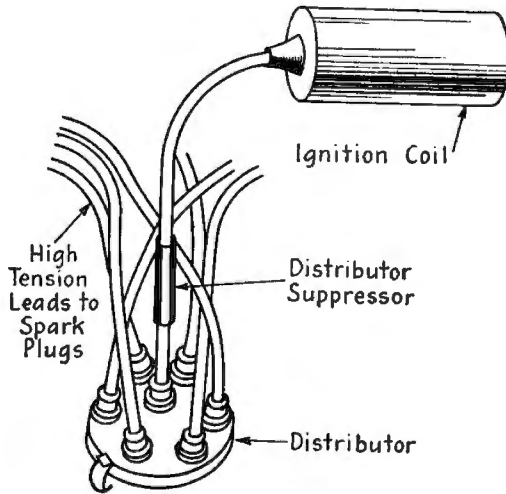

FIG. 19-5.—Distributor-suppressor installation.
Reduction of Ignition Interference.—Radiation from the ignition system can be reduced by installing a suppressor resistor in series with the high-tension lead, which connects the ignition coil and the center connection of the distributor. Figure 19-5 shows a typical
- Ignition Wiring.** The varnished high-tension leads that carry the ignition current from the ignition coil to the distributor, and from the distributor to the spark plugs. The distributor, ignition coil, and ignition wiring are shown in Fig. 19-5.